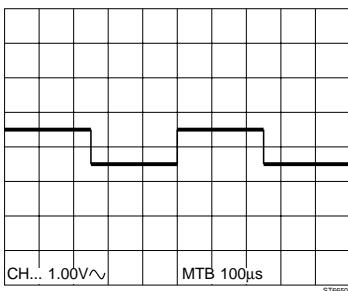

Figure 3.7
- Check for a display as shown in fig. 3.7.
- Press the EXT TRIG key and check that the display as shown in fig. 3.7. is obtained again.